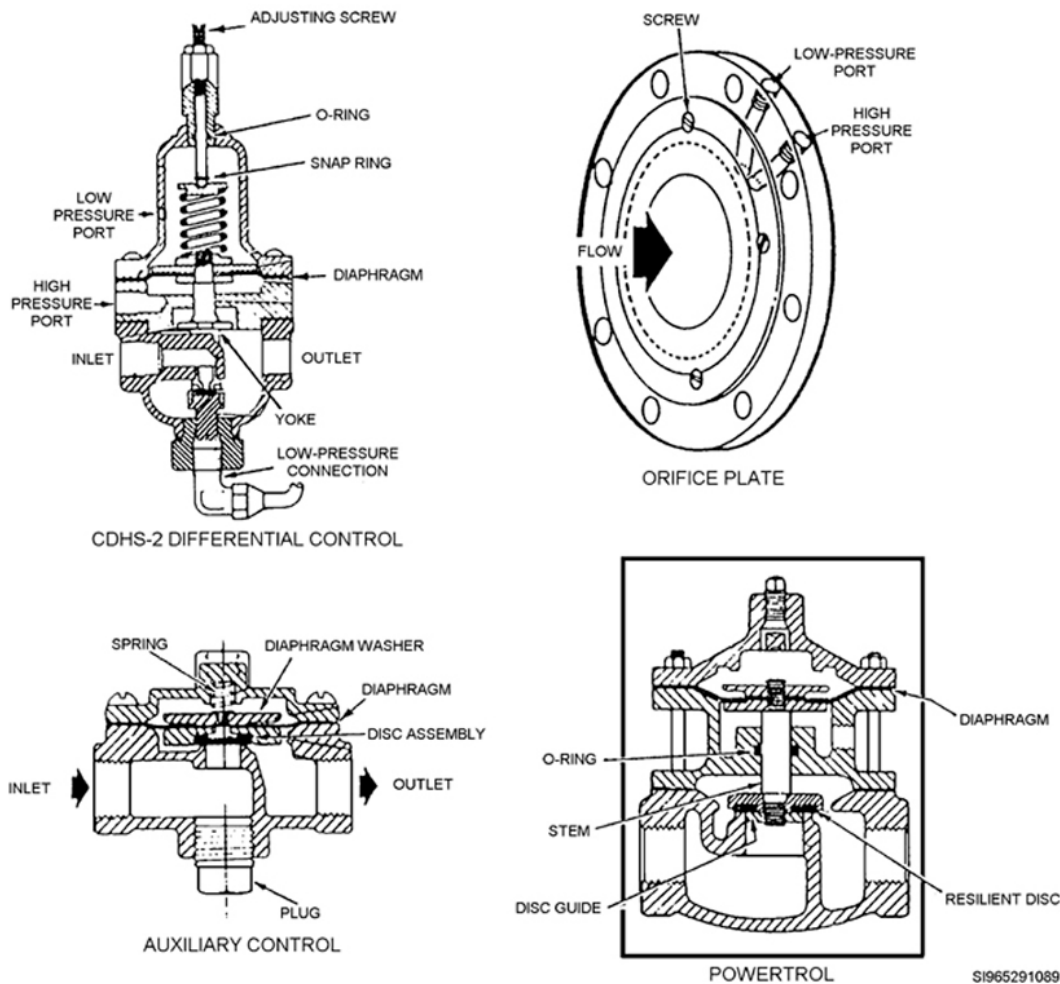

Figure 2-10. 40AF-2A valve components.
The most widely used FDV is one with a quick shutoff and flow control—the 40AF-2A. This valve has four major components that you need to learn about before going into the operation itself. The first component to be covered is the *powertrol*, shown in figure 2-10. The powertrol is very simple in design and is in either the OPEN or the CLOSED position. Fuel under pressure enters the powertrol from the right and applies pressure on the top of the disc, holding it in the CLOSED position. When pressure is applied to the underside of the diaphragm, the powertrol is forced open and fuel passes through it.
Also shown in figure 2-10 is an illustration of an *orifice plate*. The orifice plate is used to create a DP. Fuel passing through the smaller opening of the orifice plate increases the velocity of the fuel and reduces the pressure at the discharge side of the orifice plate. This pressure change is sensed at the low-pressure port, and pressure on the inlet side of the orifice plate is sensed at the high-pressure port. We now have high and low pressure (DP) being sensed at the orifice plate.
In addition, figure 2-10 shows the *CDHS-2 differential control*. This control uses the DP created by the orifice plate to control the flow of fuel through the control tubing of the 40AF-2A. The control has an adjusting screw, an O-ring, a snap ring, a diaphragm, a high-pressure port, and a low-pressure port.
The last control shown on figure 2-10 is the *auxiliary hytrol*. This control is used to stop all flow of fuel in the control tubing when there is excessive water in the F/S. The control is of simple design, consisting of a diaphragm, disc assembly, spring, and a washer. This control is either in the OPEN or the CLOSED position. Without any pressure being applied to the top of the diaphragm, fuel pressure entering the inlet will push up on the diaphragm assembly and force it open. When pressure is applied to the top of the diaphragm, the control is held closed.